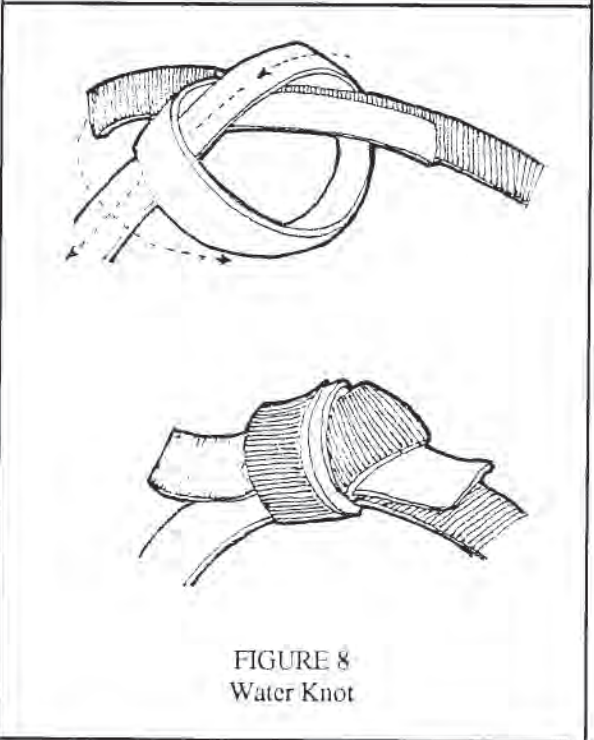

FIGURE 8
Since the system is so compact and light, one can carry it almost all the time. The whole system, including figure 8, carabiner, screw link, diaper harness and cords, will fit in a stuff sack the size of a quart sized ziplock bag. In caves where one doesn't know what obstacles are ahead, or caves that have many very short drops, a compact lightweight system like this is ideal.
- * 1 Figure 8
Figure 3 shows the two versions of the diaper seat. The first option uses a water knot (Figure 8) to make the loop, the second uses the buckle.
Figure 8 on a Bight
Take the new end and tie a very small figure 8 on a bight. See Figure 8. The loop does not have to be very big, since it only has to fit onto the screw link. The harness will NOT be tight enough if you only pull it tight while standing. If you do a keep knee bend, you can then take out the excess slack and make sure the harness is on tight enough. Feed the webbing back through the buckle and tie a safety knot as well. The buckle should be on your hip or behind.